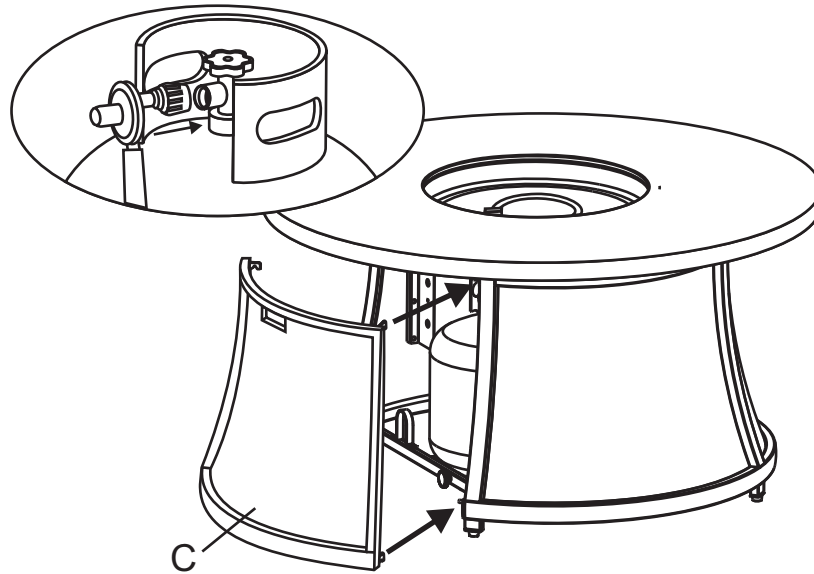

Figure 6
4. Take out the door and place the LP tank in the bottom frame. Connect the regulator as shown in Figure 6. Screw the black handle clock-wise to tighten. Turn the handle counterclock-wise to remove. The hose must point down. Open the control door and check that the valve is turned all the way clockwise to the “OFF” position. Open the tank valve. Apply a solution of soapy water to the tank-regulator connection and to the valve-hose connection to check for leaks. If soap bubbles continue to form, the connection has a leak. If a leak is found, close the tank valve and tighten all connections.